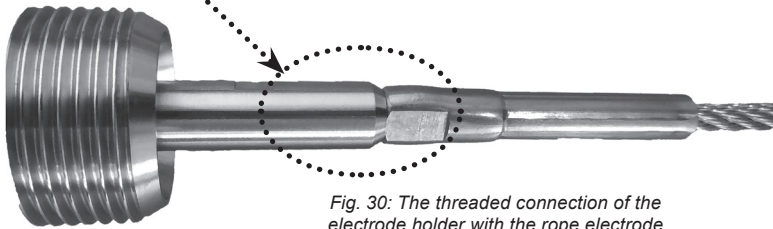

Fig. 30: The threaded connection of the electrode holder with the rope electrode
1. Create your own electrode as shown on Fig. 31 The length of the electrode must be about 7 mm shorter than the dimension "E" in figure 30. The material of the electrode is recommended to be used stainless steel type 1.4404 (AISI 316 L) or similar depending on the application.